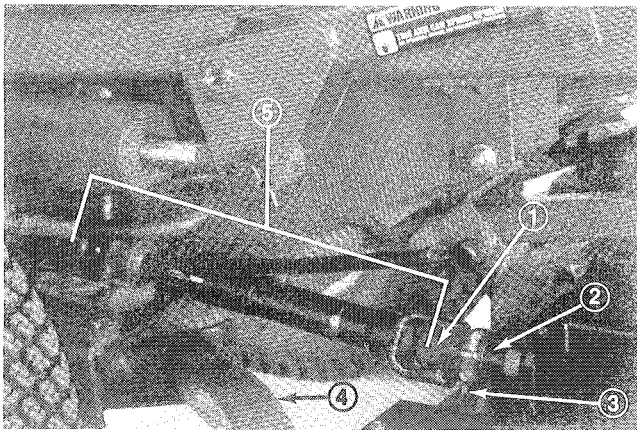

Figure 22
3. Drive roll pin out of yoke and input shaft of gear box (Fig. 22). Also, loosen capscrews and locknuts. Slide yoke off the input shaft. If traction unit will be used without the cutting unit, drive roll pin out of yoke at PTO pivot shaft and remove entire universal shaft from traction unit.
5. Have a helper push down on the right push arm while you remove the capscrews, flatwashers, lockwashers and nuts securing ball joint mount to caster arm on cutting unit (Fig. 22). Now the helper can carefully allow push arm to move upward, which will gradually release the 100 pounds (445 N) of spring load.